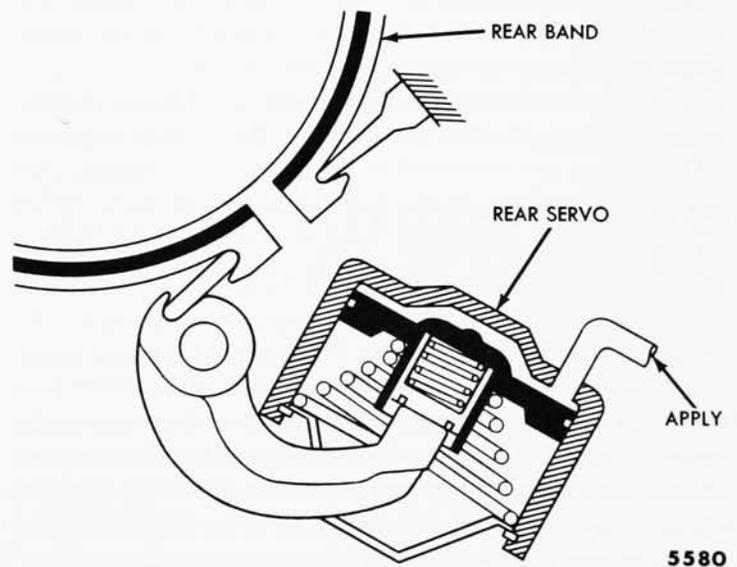

Fig. 18—Rear Servo Operation
(5) **REAR SERVO.** The rear servo assembly uses an accumulator piston and spring to cushion application of the rear band. Fluid pressure is directed to the rear servo piston to force it inward. When the band contacts the drum, cushioning is provided as the accumulator piston spring is compressed. As the accumulator piston bottoms in the rear servo piston bore, the rear band is fully applied (fig. 18).